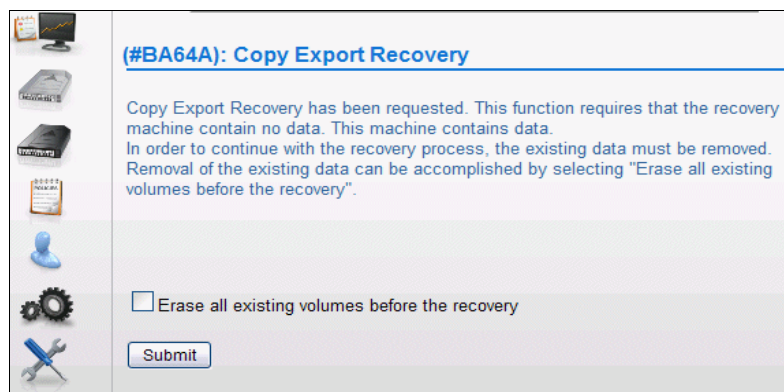

Figure 15-5 Copy Export Recovery window with erase volume option
2. If the TS7700 determines that data or database entries exist in the cache, Copy Export Recovery cannot be performed until the TS7700 is empty. Figure 15-5 shows the window that opens to inform you that the TS7700 contains data that must be erased.